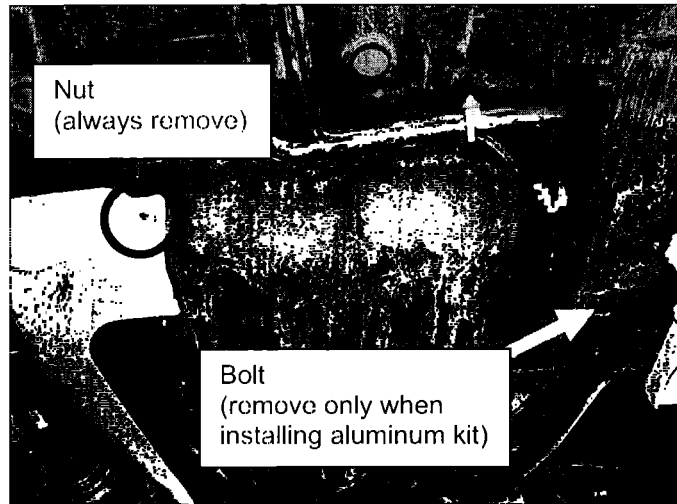

Figure 4
3. Remove the nuts (indicated by the circles in Figures 4 and 5) from the front LH and RH side of the fuel tank.
4. Remove the 10mm bolts (indicated by arrows in Figures 4 and 5) from the front LH and RH existing wheel well splash guard.